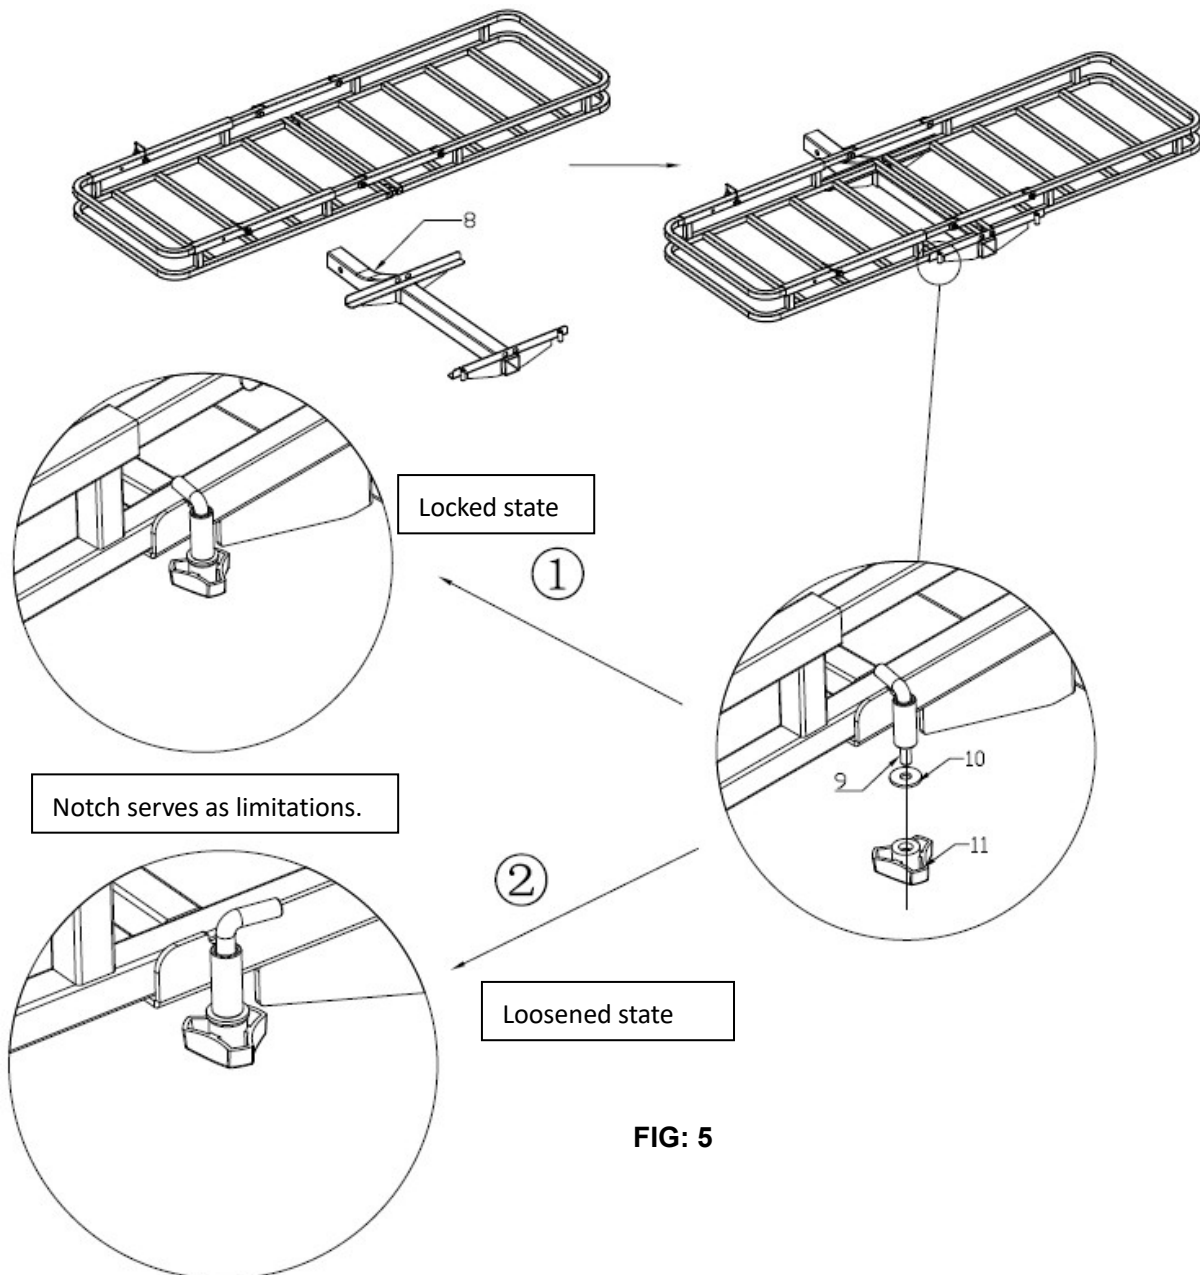

FIG: 5
5. Install the assembled carrier frame of Step4 on the bottom welding assembly (8). Align the hole on the center. Insert the bent pin (9) down into the axle sleeve, through (10) M6 washer (2pcs) in sequence, compress the bottom of the carrier frame as shown, screw the hand wheel (11) (2pcs). See FIG 5.